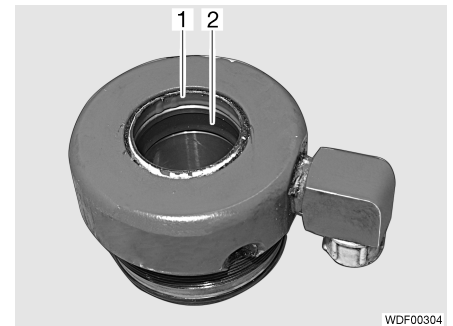

Fig. 170 Outside of the guide bush
- Remove the annular seal (Fig. 170,2).
- Remove the dust arrester (Fig. 170,1).